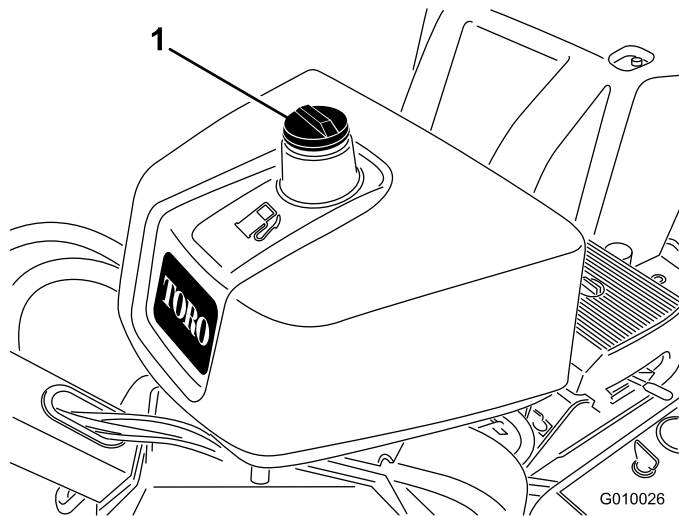

Figure 16
2. Clean around the fuel tank cap and remove it (Figure 16).